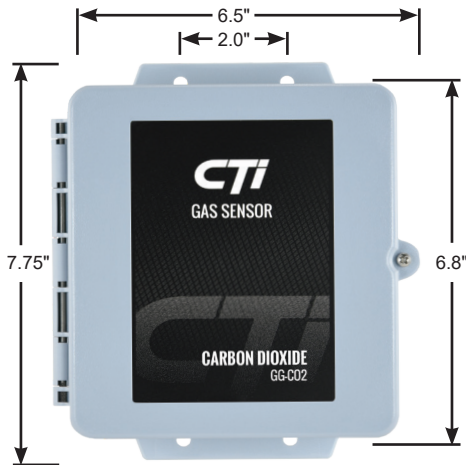

Figure 1: Mounting Dimensions
- Mount sensor enclosures through the mounting holes as shown in Figure 1. Use the supplied self-tapping screws for mounting on sheet metal surfaces.